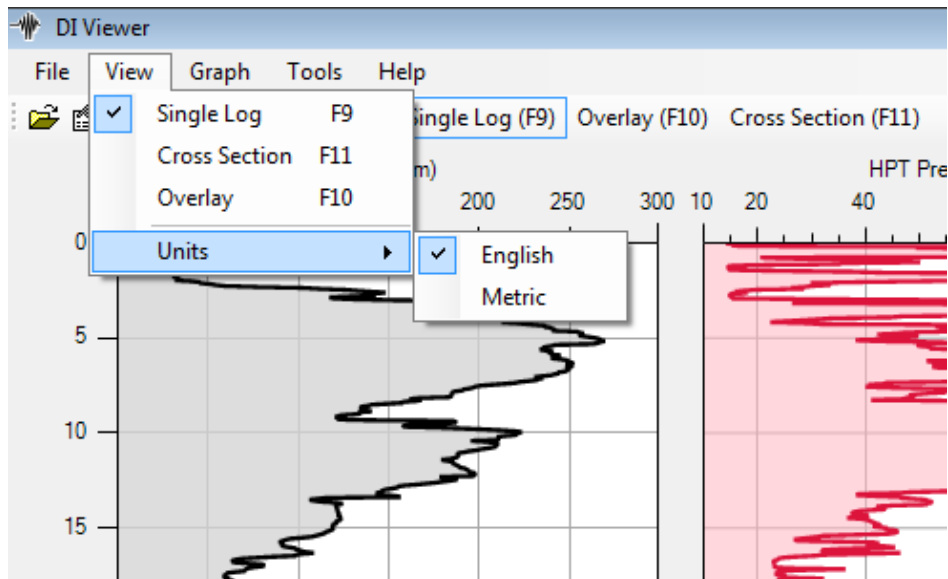

Figure 2: Changing Scaling Units between English and Metric
- Or select *View* above the toolbar and select the desired log display (Figure 2).
3. Select either *English* or *Metric* (Figure 2).